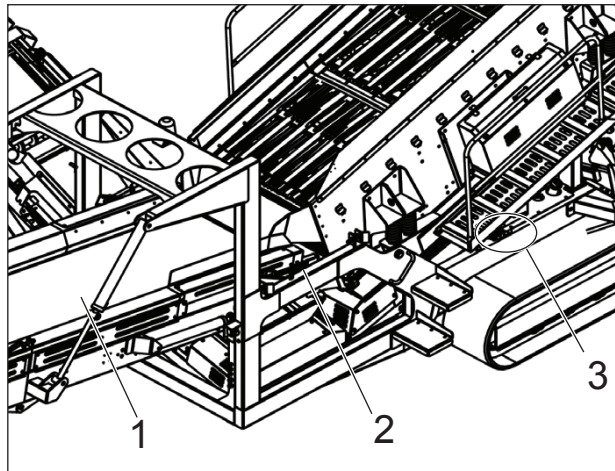

Figure 9.57 - Screenbox in Second Working Position
4. Lower the tail conveyor to its lowest position. The purpose of this is to allow easier access to the lower meshes. (Item 1), Reference: Figure 9.57.
5. Remove retaining pin (Item 2) and slide tail conveyor away from screenbox, Reference: Figure 9.57.